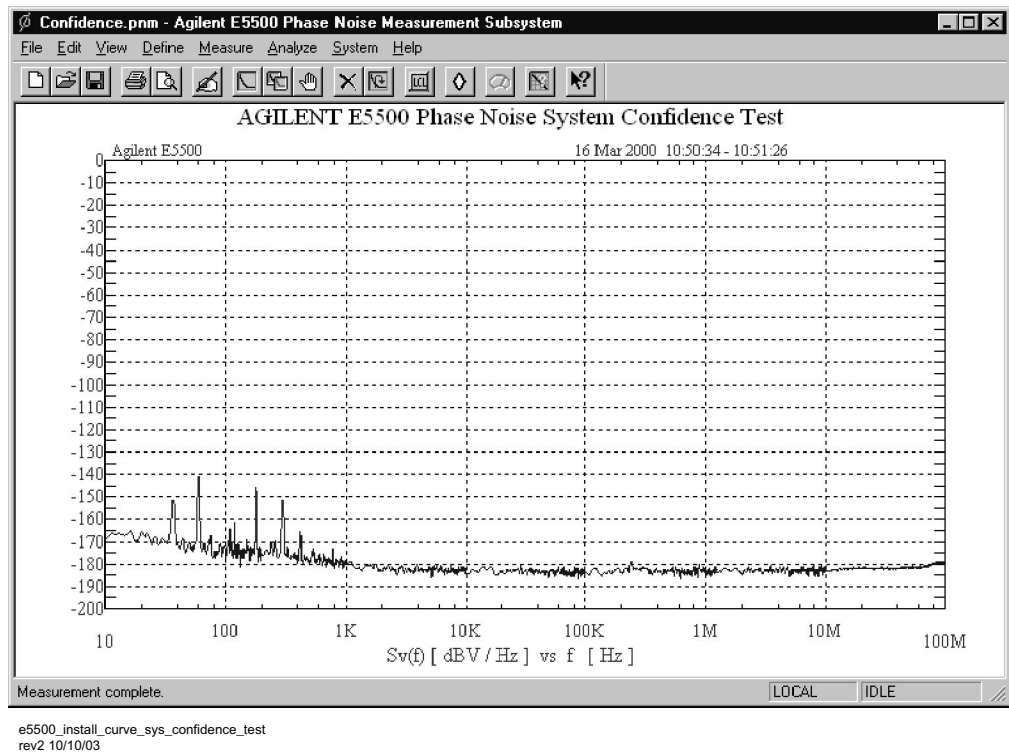

Figure 12 Typical phase noise curve for test set confidence test
- Figure 12 on page 43 shows a typical baseband phase noise plot for an phase noise test set.
You have completed a phase noise measurement. This measurement of the test set's low noise amplifier provides a convenient way to verify that the system hardware and software are properly configured for making noise measurements. If your graph looks like that in Figure 12, you can be confident that your system is operating normally.